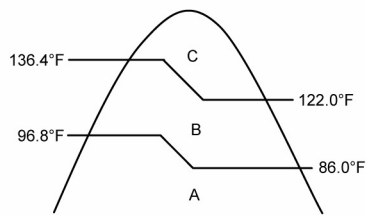

Figure 1
- Automatic vertical airflow direction can be set using remote control; the vane swings up and down within the angles as stated above. For heating mode operation, the angle of the vane depends on the indoor heat exchanger temperature as Figure 1 below. When the air conditioner is stopped using remote control, the vane will shift to close position.